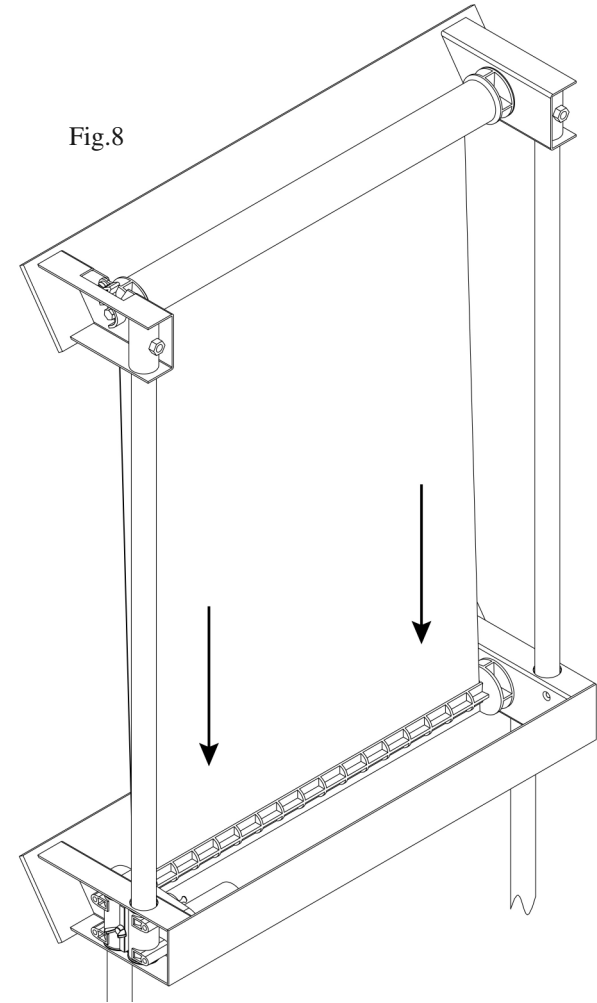

Fig.8
- Pull the target material downwards to the lower spindle and slip the end of it into the slot in the center. Allow for about an inch of target to protrude through the bottom of the spindle.(See Fig.8)